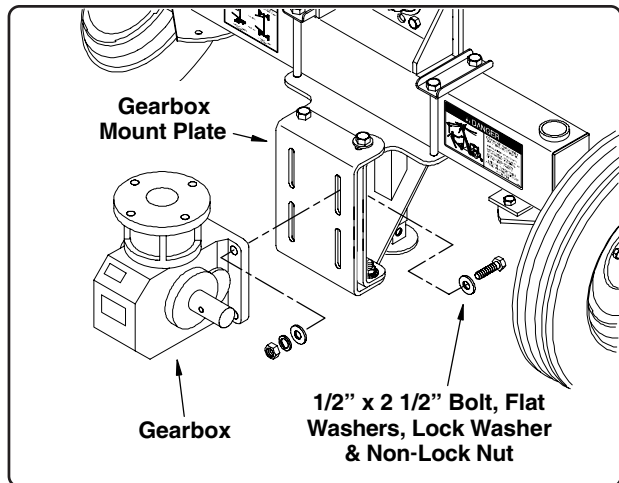

Fig. 4
3. Attach the gearbox to the front of the mount plate as shown in Fig. 4. Secure the gearbox using four $1/2" \times 2 1/2"$ bolts, eight flat washers, four lock washers and four non-lock nuts (the bolts will be inserted from the back side of the mount plate).